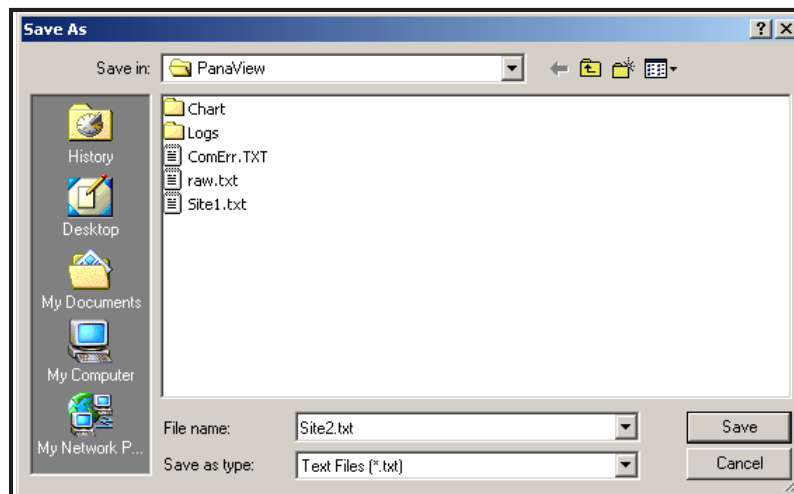

Figure 29: Save As Window
To *save* the raw signal, click *Save*. A window opens similar to Figure 29. Enter the desired name, and click *Save* to save the signal as a text file.
2. Click *Save Site to PC*. A window opens similar to Figure 29 on page 105.